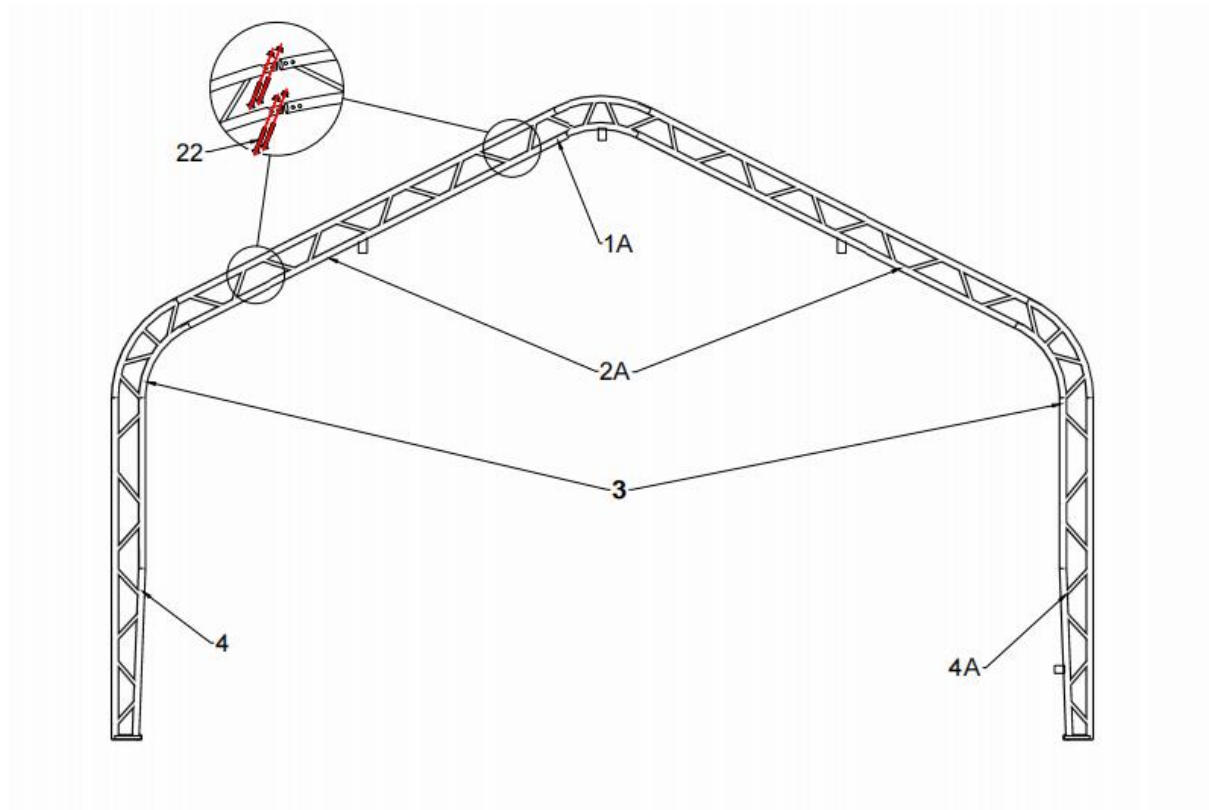

Figure 3
1. Figure 3 shows to connect the roof bent tube for front and back door (No.1A), sidewall bent tube for front and back door (No.2A), shoulder bent tube (No.3), standing leg (No.4) and standing leg for front door (No.4A) with carriage bolt 8x80mm (No.22), then put the arch into tube of the base flange by hoist.